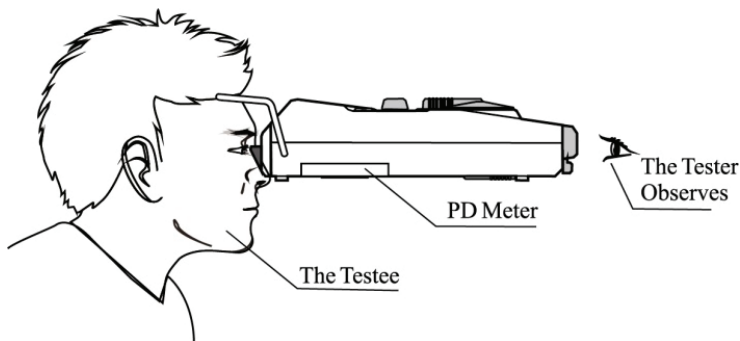

Fig.6
- b. Put the forehead bearer lightly on the testee's forehead, and nose bearer lightly on testee's nose bridge, then keep the device in a horizontal state(as shown in Fig.6).